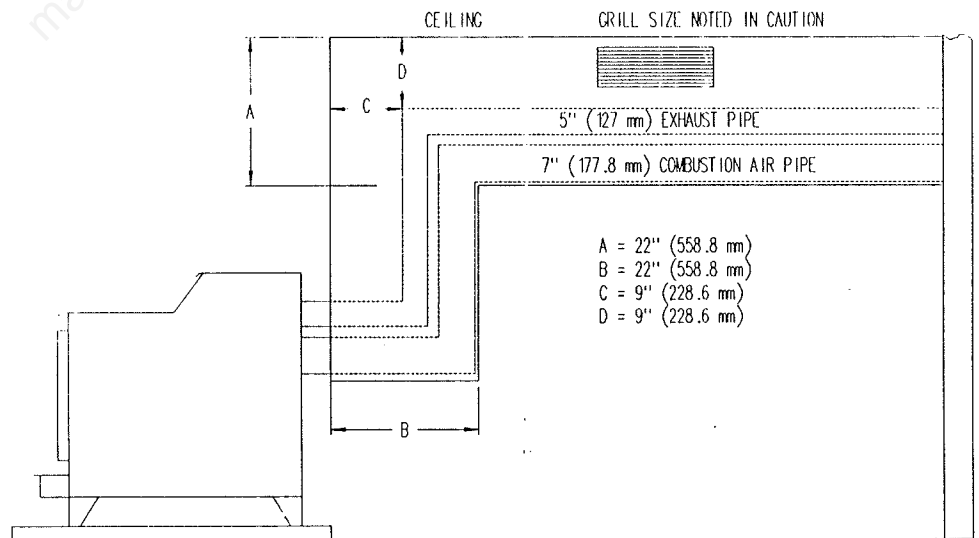

Figure 9
NOTE: If installed in a basement for example you want to use elbows out the back of unit and run pipe along the ceiling with it enclosed in a chase for better appearance. You will need to follow Figure 9.
- (2) For maximum 45 deg. corner follow procedure in section D figure 9 maximum horizontal installation.